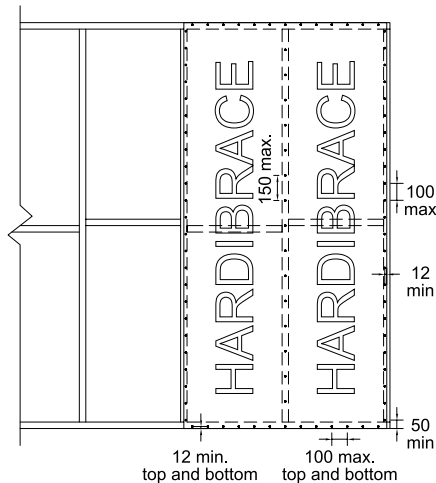

Figure 1: Type A Nailing Detail
To achieve Type A bracing capacity (3kN/900mm), fix the HardiBrace™ Sheet Bracing in accordance with Figure 1, Section 5 and Clause 2.2.5 of this manual.
- To achieve **Type A** bracing capacity with 6mm JHFC sheets as defined at Clause 1.2 of this manual, fix sheets in accordance with Figure 1, Section 5 and Clause 2.2.5 of this manual;
| HardiBrace™ Sheet Bracing fixed with standard nail pattern (see Figure 1) | 3.3 |
| 6mm JHFC sheets, single-sided, fixed vertically as per standard HardiBrace™ Sheet Bracing (see Figure 1) | 3.3 |